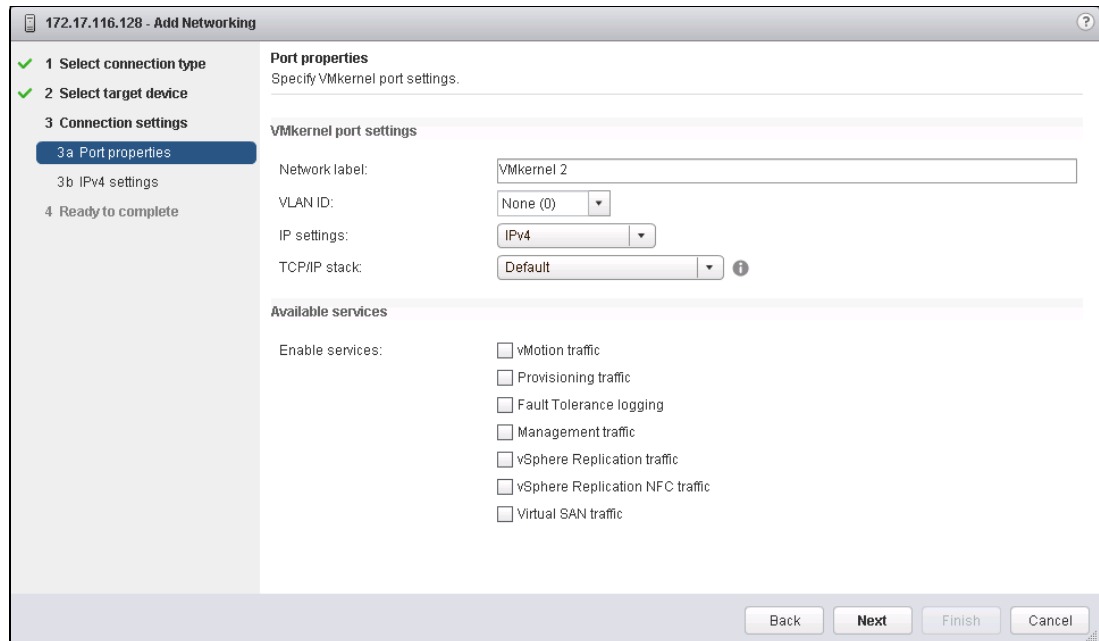

Figure 5-22 VMware: Select an iSCSI interface
4. Select one or more network interfaces that you want to use for iSCSI traffic and click **Next** (Figure 5-22).